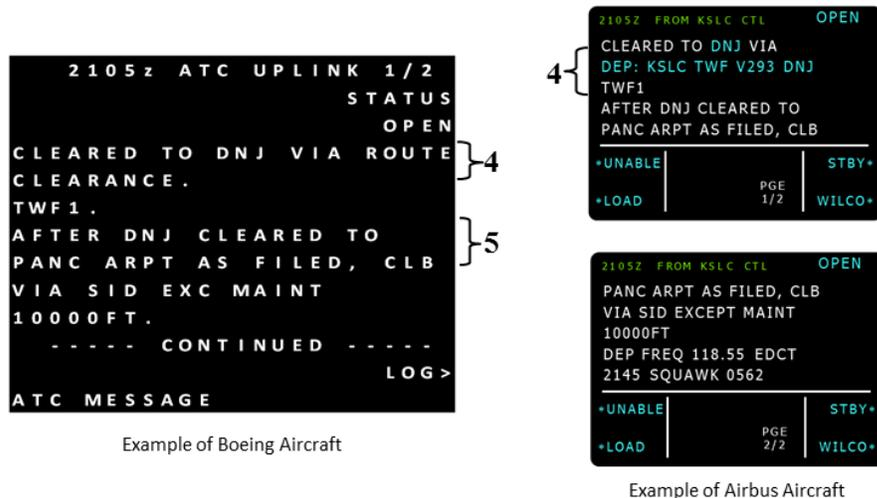

Figure 16. Depiction of DCL including CLEARED TO “POSITION” AS FILED
4. In the example shown in Figure 16 (above), the controller has received an amendment to the FILED ATC Clearance request which connects at the downstream waypoint DNJ. VIA ROUTE CLEARANCE is the “Loadable” portion of the clearance which contains the modified route to the Cleared TO Position point – “DNJ”.